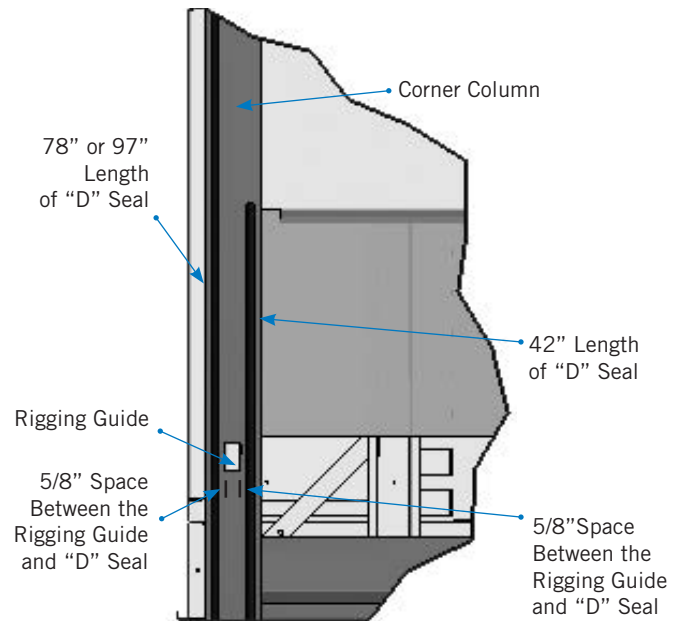

Figure 14b. Detail of Corner Column
- Before rigging the coil modules, wipe any moisture and debris from the corner columns and apply "D" seals (BAC part # 271665) at two locations on each coil module as shown in **Figure 14b**.